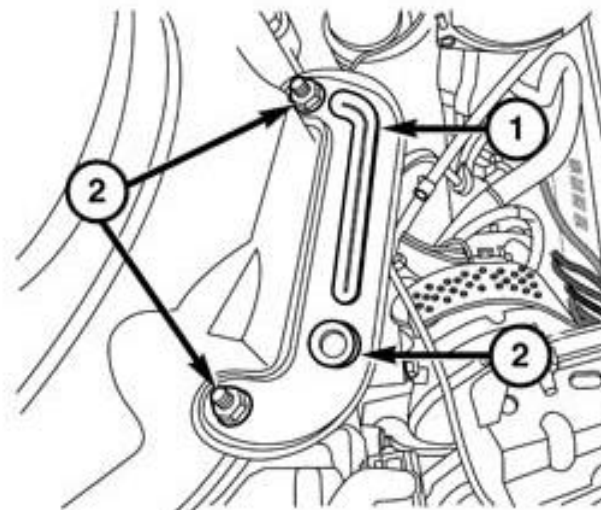

Figure 27 – Exhaust Bracket
64. Remove the exhaust bracket (1) from the convertor housing to the exhaust pipe. (Figure 27).